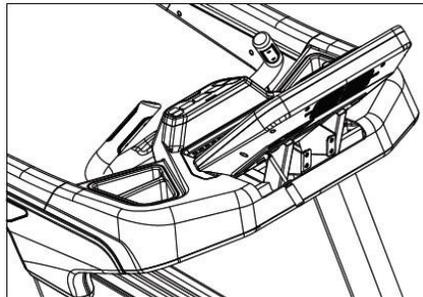

Figure 4.1.2
- 2) As shown in Figure 4.1.2, remove the electronic control cable connector and use a cross screwdriver to remove the console.